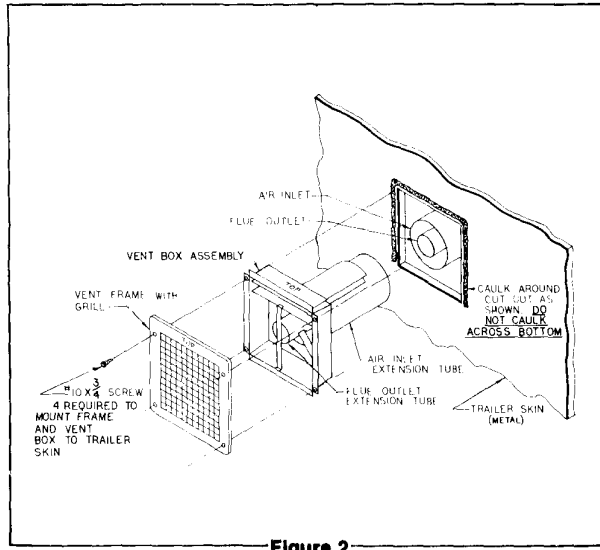

Figure 2
A-Caulk along each side of the cutout and across the top. (See Figure 2.)
B-Insert the vent box assembly (be sure "top" is up) through the 8 3/4" x 9 1/4" cutout in the trailer skin. Engage the air inlet extension tube over the air inlet tube on the heater. The flue outlet extension tube fits over the flue outlet tube on the heater. (See Figure 2.)
E-Secure vent assembly to trailer skin using the #10 x 3/4" screws provided. (See Figure 2.)
- 2-Remove vent grille and frame and pull vent box assembly. (See Figure 2.)